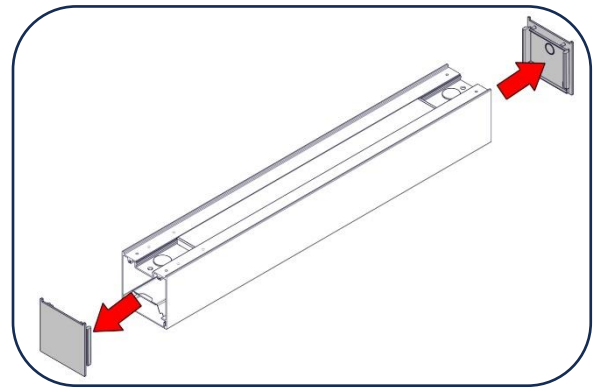

Figure 1
1. Pull the **End Caps** off of the fixture. [Figure 1]